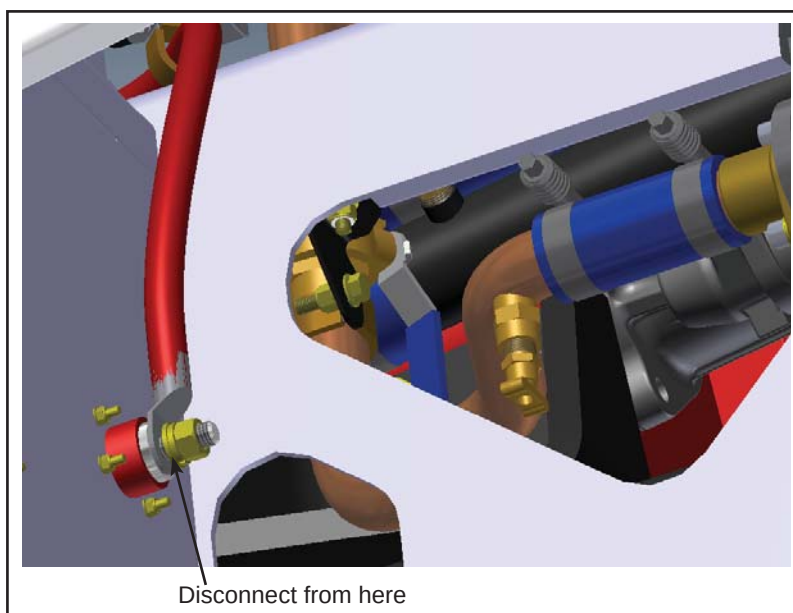

Figure 2 - Positive Battery Cable to be Disconnected
- 1.7. Remove the positive battery cable from the firewall connector. Retain the hardware. See Figure 2.